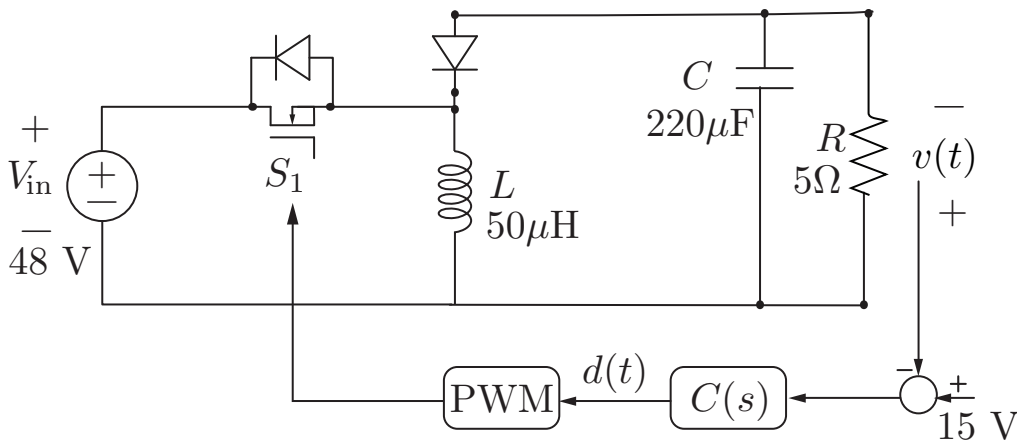

Figure 1: Closed loop control system for output voltage control of buck-boost converter
3. Verify your results in a simulation with a switched model of the buck-boost converter as shown in Fig. 1. In your simulation, the controller output should have a saturator based on the minimum and maximum permissible values of the signal  $d(t)$ .